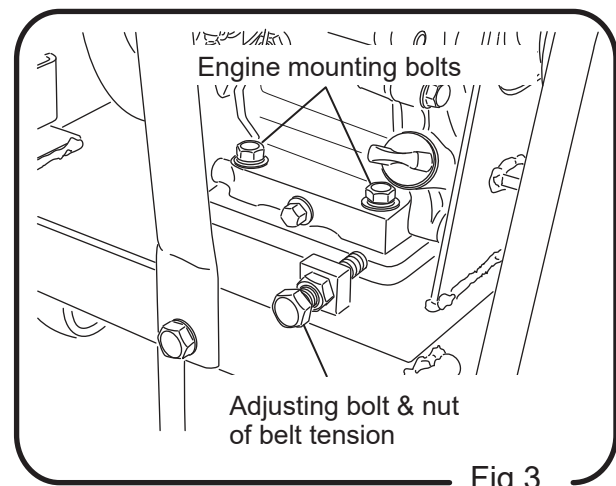

Fig.3
- C Rotating it clockwise increases the belt tension. (Fig.3)